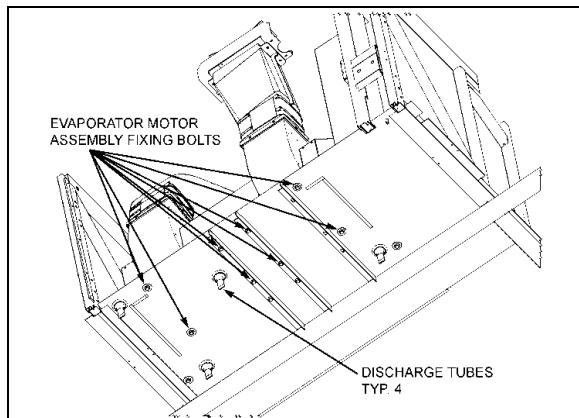

FIGURE 32: EVAPORATOR MOTOR ASSY FIXING BOLTS
- From under the vehicle, remove the eight bolts retaining the evaporator fan motor support. Remove the complete unit from the evaporator compartment (Figure 32).